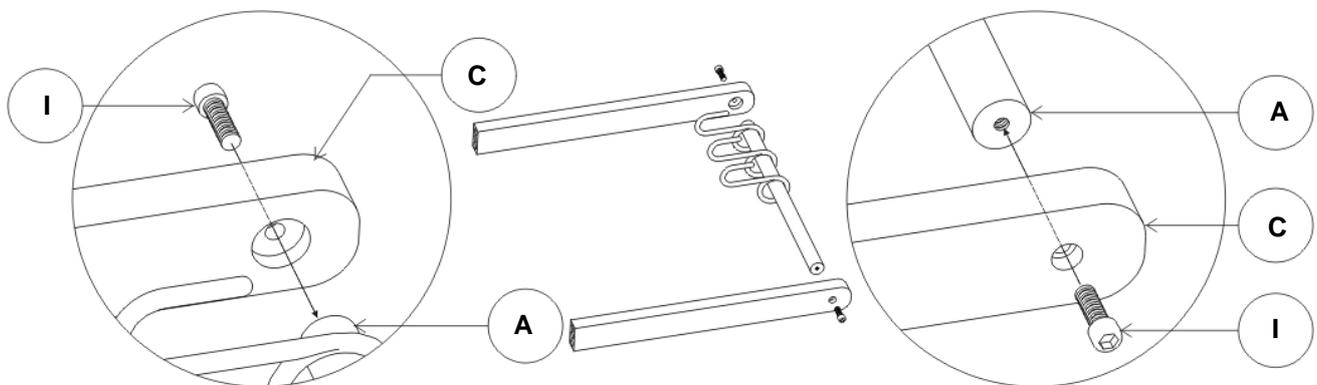
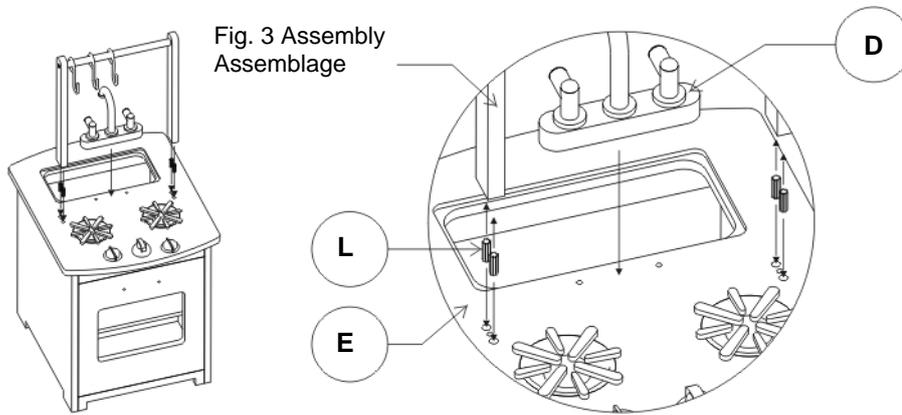
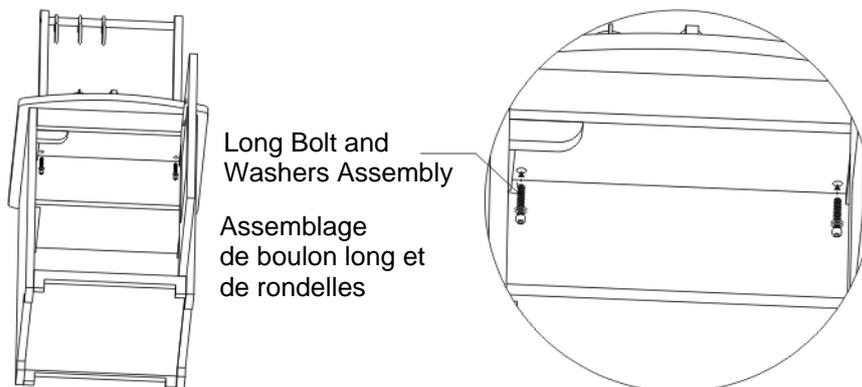
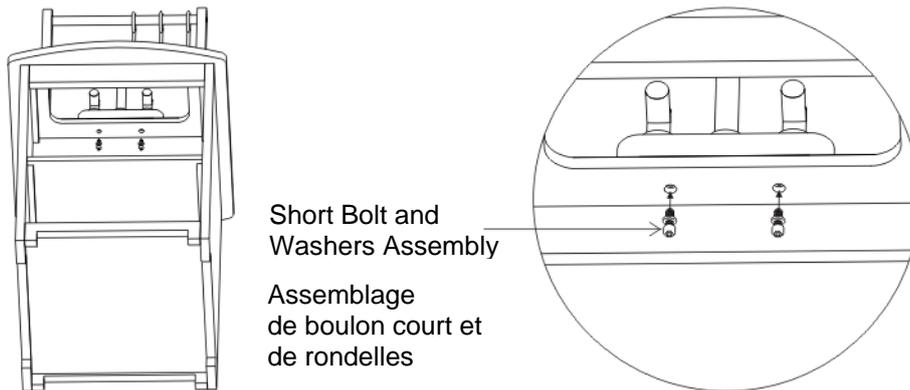

Fig. 3
Fig. 4
Fig. 5
Fig. 6
3. Insert each end of the metal rod (A) into the pre-drilled hole in the wood support (C). Secure the wood support (C) on both ends of the metal rod (A) by screwing in a short bolt (I) using the provided allen key (N). See fig. 3.
4. Attach the Fig. 3 assembly onto the island body (E) with two wood dowels (L) on each of both ends. Place the water faucet (D) onto the island body (E) making sure all the screwholes are aligned. See fig. 4.
5. Secure the fig. 3 assembly onto the island body (E) by screwing two long bolt assemblies from under the island body top (E) using the provided allen key (N). You will have to open the oven door to access the screwholes. See fig. 5.
6. Secure the water faucet (D) from fig. 4 onto the island body top (E) by screwing two short bolt assemblies from under the island body top (E) using the provided allen key (N). You will have to access the screwholes from the side without a door. See fig.6.